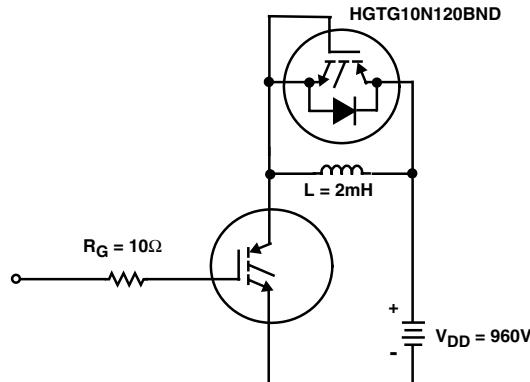

FIGURE 18. INDUCTIVE SWITCHING TEST CIRCUIT
| Current Turn-On Delay Time | $t_{d(ON)I}$ | IGBT and Diode at $T_J = 25^\circ\text{C}$ $I_{CE} = 10\text{A}$ $V_{CE} = 0.8\text{V}$ $V_{GE} = 15\text{V}$ $R_G = 10\Omega$ $L = 2\text{mH}$ Test Circuit (Figure 18) | - | 23 | 26 | ns |
| Current Rise Time | t_{rl} | IGBT and Diode at $T_J = 150^\circ\text{C}$ $I_{CE} = 10\text{A}$ $V_{CE} = 0.8\text{V}$ $V_{GE} = 15\text{V}$ $R_G = 10\Omega$ $L = 2\text{mH}$ Test Circuit (Figure 18) | - | 11 | 15 | ns |
5. Values for two Turn-On loss conditions are shown for the convenience of the circuit designer. E_{ON1} is the turn-on loss of the IGBT only. E_{ON2} is the turn-on loss when a typical diode is used in the test circuit and the diode is at the same T_J as the IGBT. The diode type is specified in Figure 18.